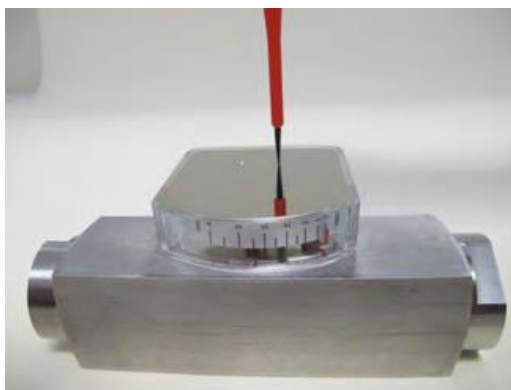

Fig. 70
27. ► Fasten the screws securing the display cover plate, observing the proper tightening torque (Fig. 70) (Ä Chapter 11.1 "Tightening torque of screws")